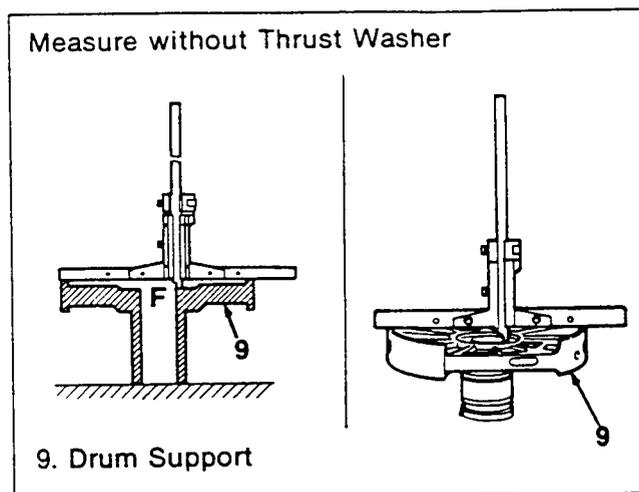

Figure 276. End Play Measurement (5)
11. Turn over the drum support and measure "F" with a depth gauge (figure 276).